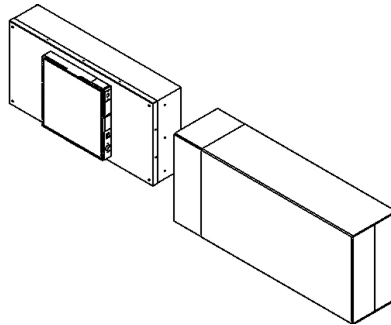

FIGURE 1 : UNBOXING
Step 1: Carefully remove the unit from the shipping carton and inspect for any damage that may have occurred during transportation. (See Figure 1.)